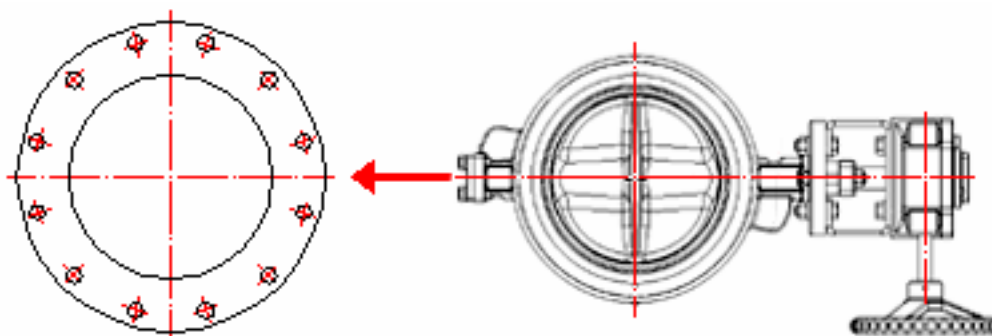

Fig. 4
- 7.4. Please install the valve stem horizontally as (Fig.4), thus could prevent sand and some chips collect around bottom bushing and seat and damage the valve.